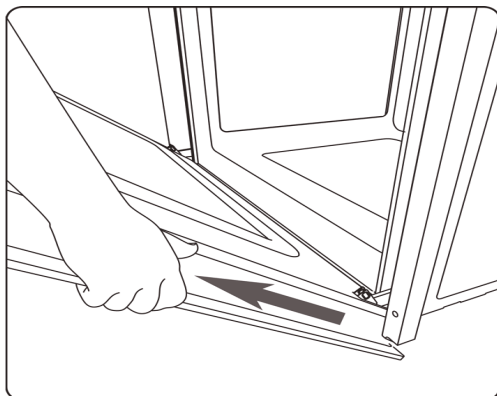

fig.11
- Lift the door upwards and outwards from the oven to extract it from its mountings. Figure11